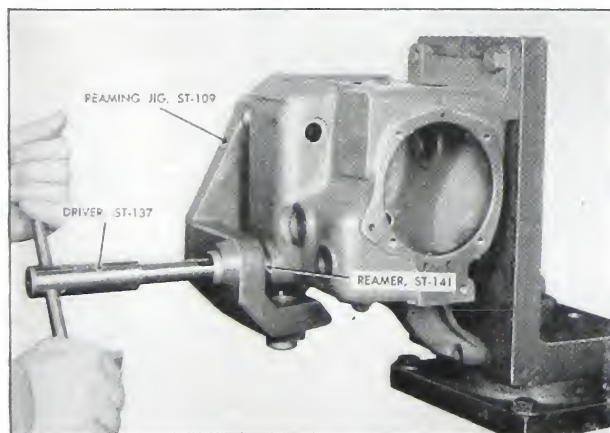

Fig. 5-108. Reaming control shaft bushing
8. Finish ream all remaining bushings in the fuel pump housing except the cam rocker lever bushing. Use Fixture, ST-109, driver, ST-137, and reamers as listed in bushing table following Step 5. Fig. 5-108.